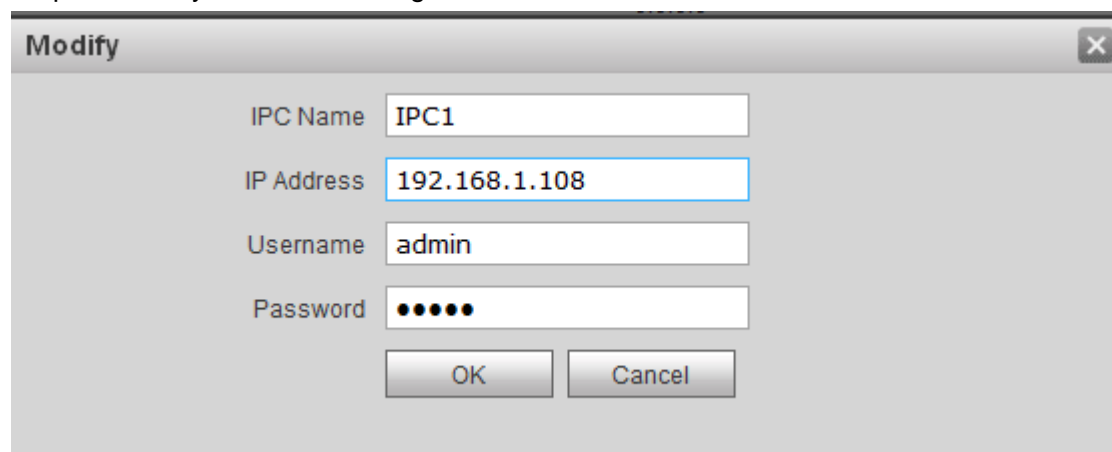

Figure 4- 16
Step 3. Modify IPC info. See Figure 4- 16.